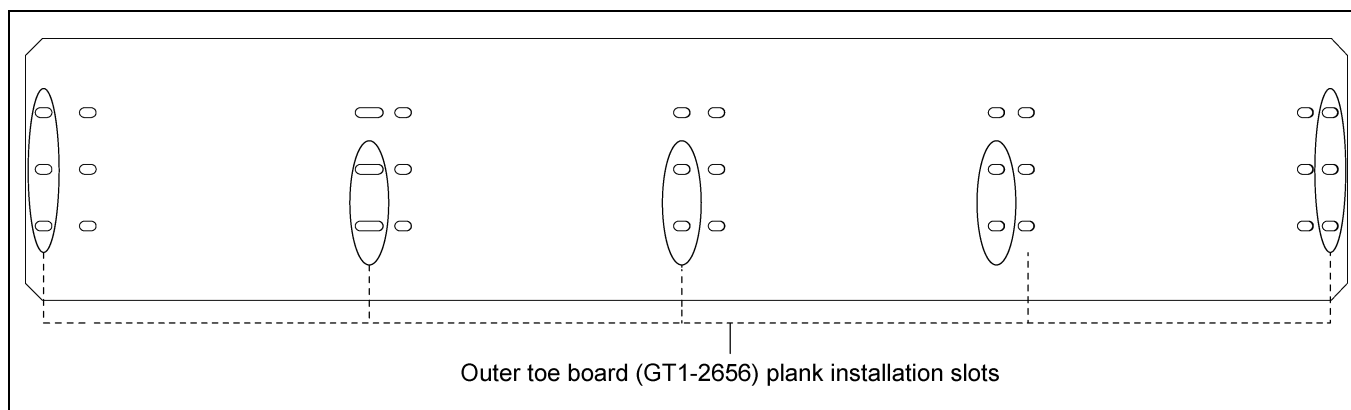

Figure 4S
3. Outer toe board (GT1-2656) is aligned and attached to the planks with the corresponding slots as shown in *Figure 4S*.